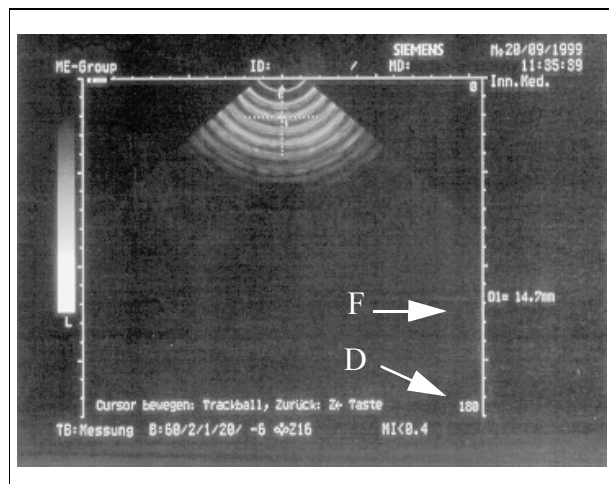

Fig. 17
- Set the value (D/Fig. 17,18) to 180 using the knob .
- Use the track ball to move to the center of the crosshairs. In the display (F/Fig. 17), a value of - see Table - must appear that is relative to the probe.